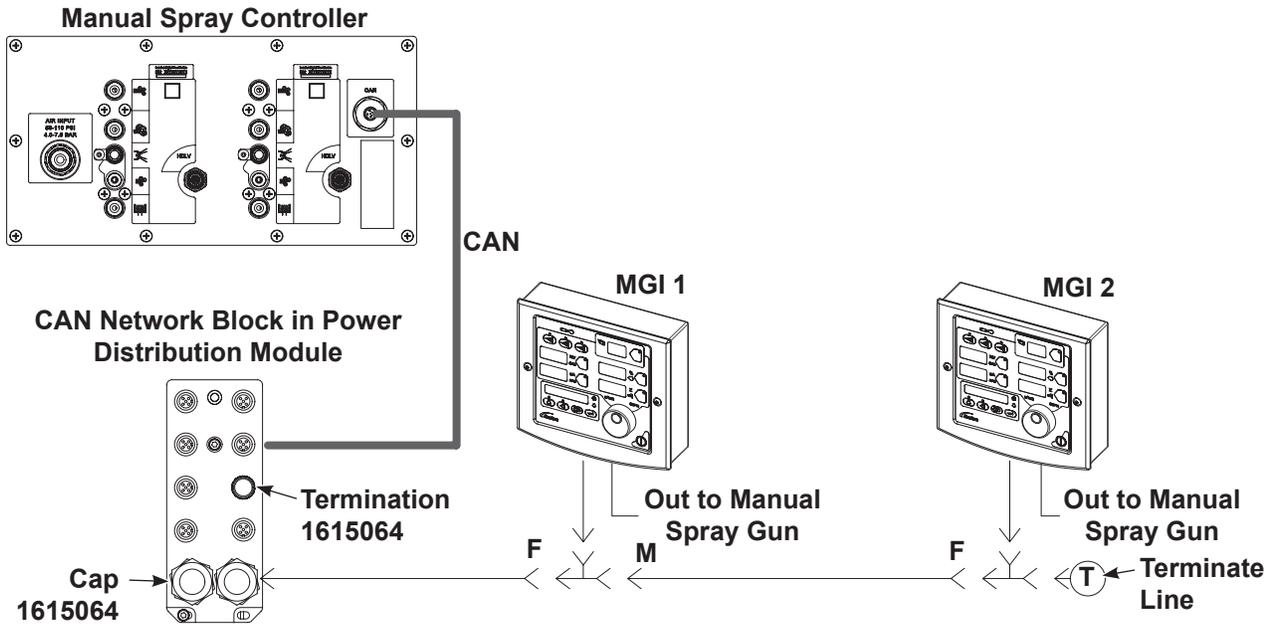

Figure 10-3 MGI Connections for Manual Spray Gun Modules
7. **Manual spray guns only** – See Figure 10-3. Connect the MGI to the power distribution module.